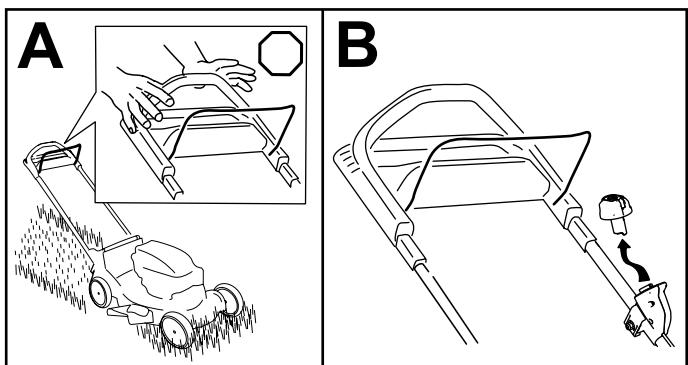

Figure 17
1. Release the blade-control bar (A of Figure 17).
2. Remove the electric-start button from the electric starter (B of Figure 17).